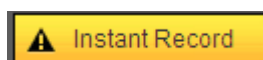

Figure 5-13
- Section 5: Instant record button. Click it, the button becomes yellow and system begins manual record. See Figure 5-13. Click it again, system restores previous record mode.